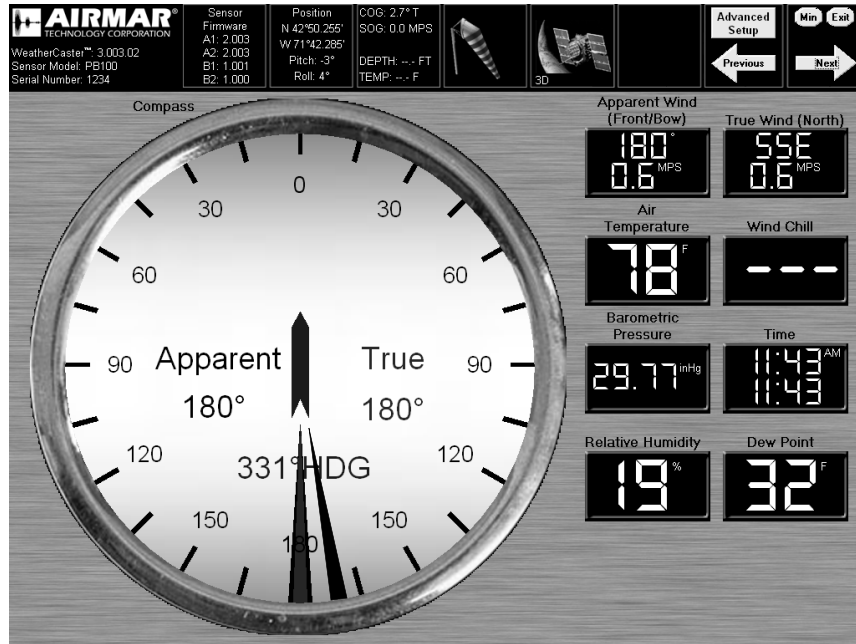

Figure 26. Large Compass and Digital Readout Screen
- **Large Compass and Digital Readout Screen**—This screen displays a large compass on the left and data being sent from the sensor(s) in digital format on the right (see Figure 26 on page 29).
To view the Large Compass and Digital Readout Screen, click the Next arrow at the top right of the display. This screen shows a large compass on the left and readings in digital format on the right (see Figure 26). This screen does *not* display historical data.
The Compass displays the true wind direction, the apparent wind direction, and the heading (see Figure 26).
The right side of the screen displays some or all of the following readings depending upon the sensor(s) installed and selected (see Figure 26):